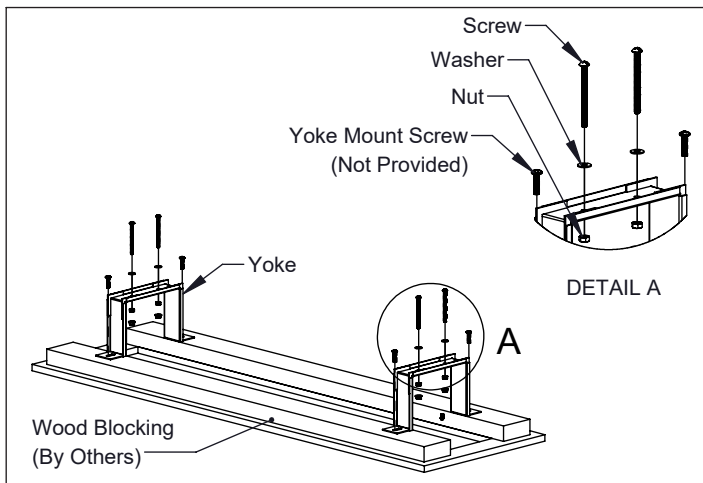

Figure 3
3. Adjust mounting yokes in ceiling with wood blocking and install hardware . (Fig. 3)